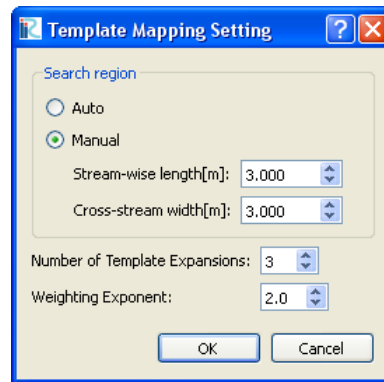

Figure 11. Template Mapping dialog
- This opens the Template Mapping dialog. Set the Search region to Manual and set the other attributes to the same values as Figure 11 and select OK. Since the data has a high density and the spacing of the points are very uniform we'll set the template algorithm to act like a nearest neighbor search by selecting the length and width of the template to be the same value.